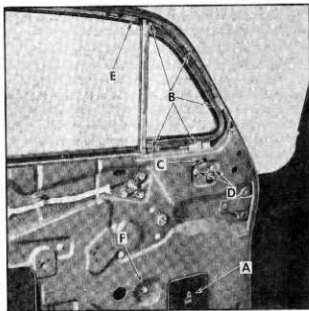

Fig. 8—Ventilator Assembly
1. Remove the door trim pad and loading hole cover "A" (fig. 8).